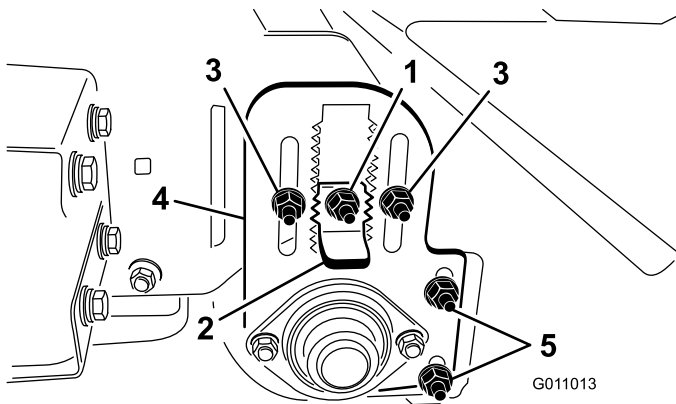

Figure 18
3. Loosen the locknut on the height adjustment key (Figure 18) so it can be pulled out approximately 1/2 inch.
4. Loosen the roller height adjustment locknuts (Figure 18).
5. Pull out the height adjustor key and move the rear roller up or down by sliding the roller height adjusting plate to the desired height (Figure 18).
The roller scraper (Figure 18) should be adjusted so there is 1/16" clearance between the scraper and the roller. Loosen the roller scraper adjusting nuts, position roller as desired and tighten nuts.